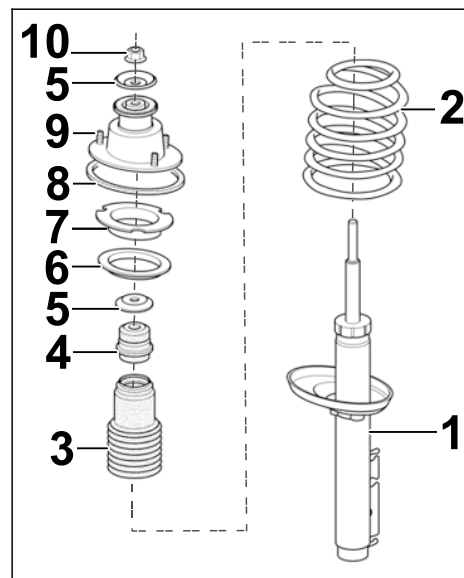

Figure 1
2.1 Assemble spring strut as follows (see also ⇒ Figure 1):